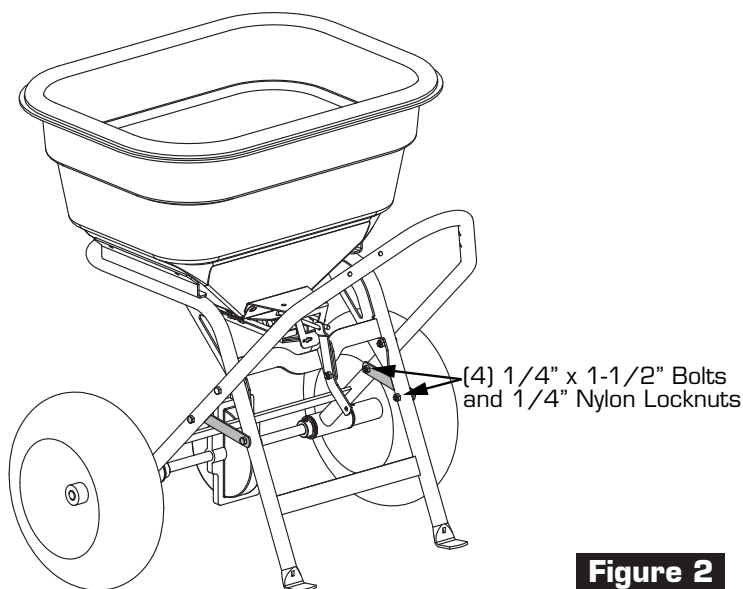

Figure 2
3. Install Cross Braces to frame as shown, Figure 2. Install using (4) $1/4 \times 1-1/2$ " Bolts and Locknuts.